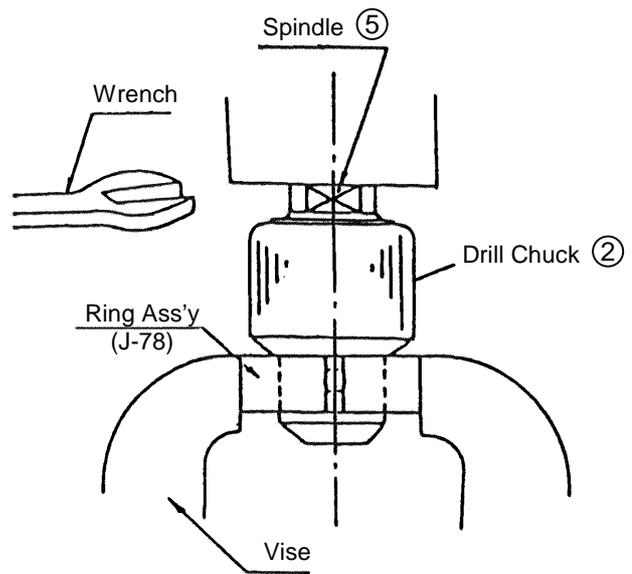

Fig. 3
- (1) Removal of the Drill Chuck (See Fig. 3):
For all models, the Drill Chuck ② is fixed to the Spindle ⑤ by a UNF $\frac{1}{2}$ "-20 thread (right-hand threaded). As illustrated in Fig. 3, fit the pin portion of a J-78 Ring Ass'y (special repair tool, Code No. 970817) into the Chuck Wrench mounting hole on the Drill Chuck, and secure the assembly in a vise. Then, fit a 17 mm (43/64") width x 4 mm (5/32") or less thickness wrench onto the provided flat surfaces on the Spindle ⑤, and turn the Spindle counter-clockwise to loosen and remove the Drill Chuck ②.